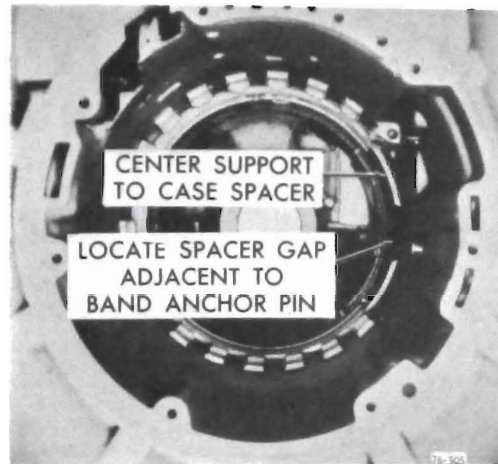

Figure 76-750A
6. Install the support to case spacer against the shoulder at the bottom of case splines and the gap located adjacent to the band anchor pin. See Figure 76-750A.